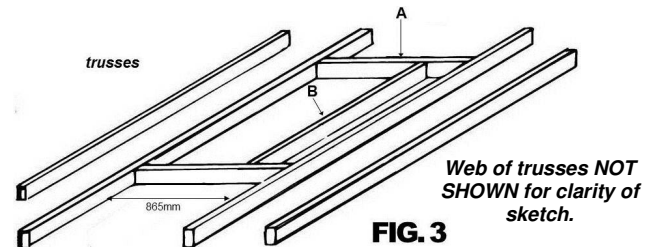

FIG. 3
What you need to make the opening – Trusses (Fig. 3):
600mm centre trusses are not suitable for 'Big-Boss™' models. In some cases, with the approval of a Building Surveyor, the truss spacing can be modified to provide a clear space of 770mm between trusses. Buildings with light roofing such as metal, corrugated or stramit types, etc., may have truss spacings at 900mm centres, in which case Fig. 3 applies. 900mm centres should give you a clear distance of 865mm between, but **you need to measure** and cut two (2) trimmers ('A') to the right size to fit in between. Locate the trimmers to suit a hatch cut-out of 1220mm or 1520mm in length, depending on Model No. – they need to be nailed in square. Now cut and nail the third trimmer ('B') to form the width of 770mm in between. Smaller hatches can be manufactured at extra cost or refer to the 'Access-Boss™' series).